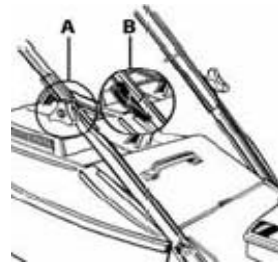

Figure 1. Handle bar pivot bolt knobs and camlocks
★ Fold the handle bars out straight, inline with the lower handle bars. Tighten the two handle bar pivot bolt knobs (A) or the cam locks (B) to secure the handle bars in position. Refer to figure 1.